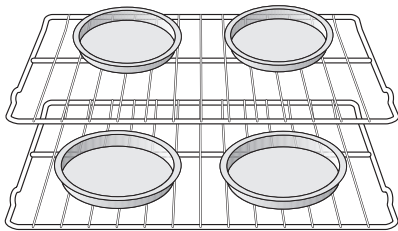

Figure 1: Baking on multiple levels
- For best results when baking cakes or cookies using 2 oven racks, place cookware and pans as shown in Figure 1.